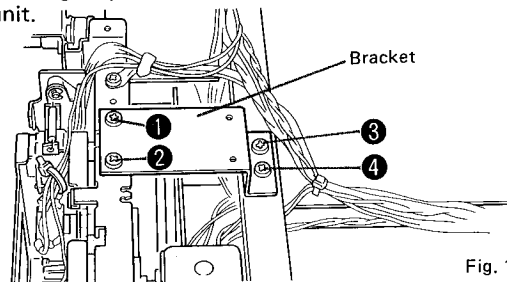

Fig. 11
1. Remove the screws 1 to 4 in Fig. 11 and then remove the bracket.